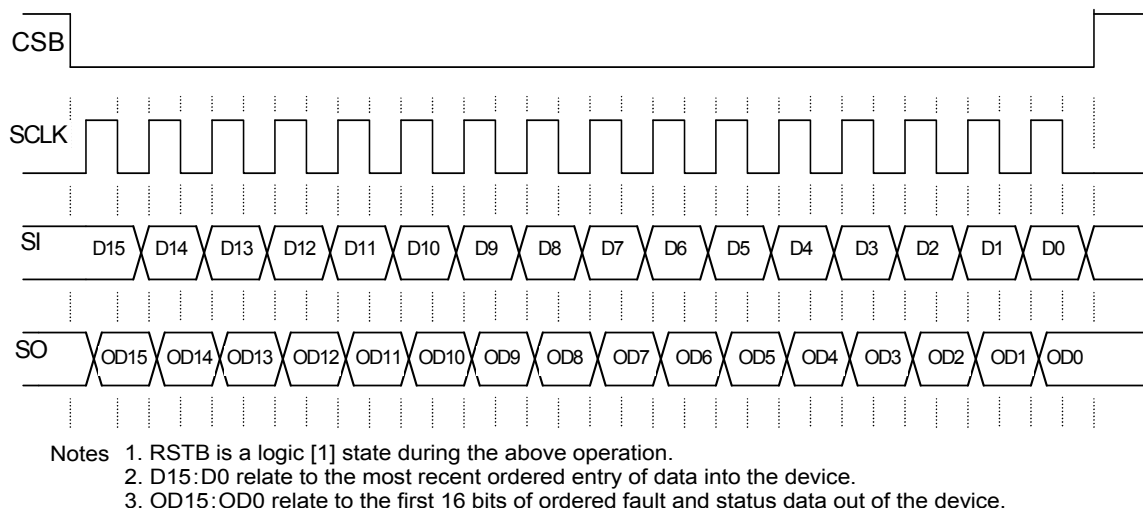

Figure 10. Single 16-bit word SPI communication
The SCLK pin clocks the internal shift registers of the 10XS3425 device. The serial input (SI) pin accepts data into the input shift register on the falling edge of the SCLK signal, while the serial output (SO) pin shifts data information out of the SO line driver on the rising edge of the SCLK signal. It is important the SCLK pin be in a logic low state whenever CSB makes any transition. For this reason, it is recommended the SCLK pin be in a logic [0] whenever the device is not accessed (CSB logic [1] state). SCLK has an active internal pull-down. When CSB is logic [1], signals at the SCLK and SI pins are ignored and SO is tri-stated (high-impedance) (see Figure 10, page 28). SCLK input has an active internal pull-down, I_{DWN} .
5.2.8 Serial input (SI)